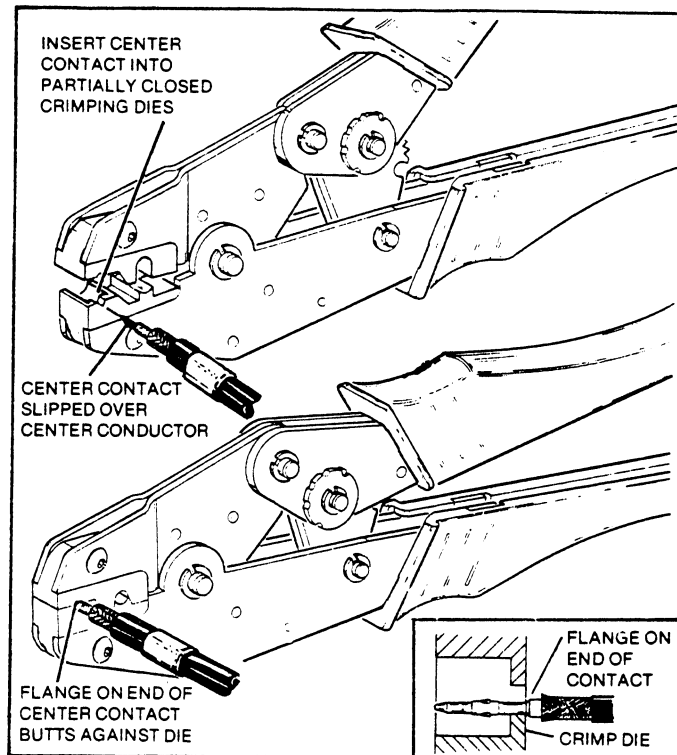

Figure 4.2.3.1.2 Crimping Center Contact
(See figure 4.2.3.1.2)
- A. Place the center contact, assembled on the stripped conductor, in the partially closed crimping dies as shown in Figure 4.2.3.1.2.